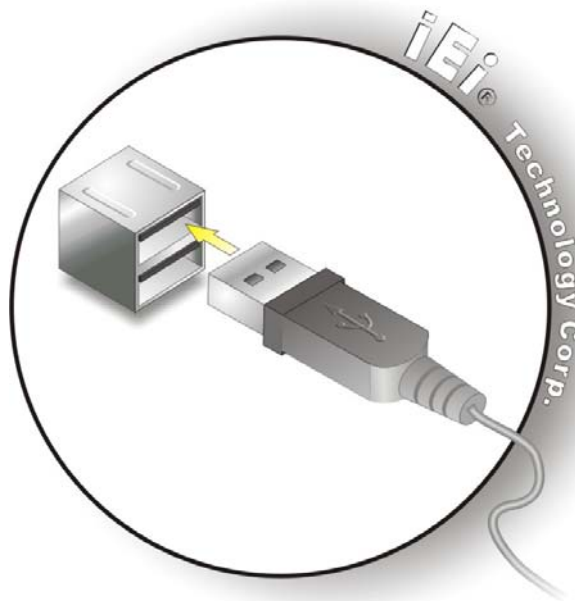

Figure 4-19: USB Connector
Step 2: **Insert a USB Series "A" plug.** Insert the USB Series "A" plug of a device into the USB Series "A" receptacle on the external peripheral interface. See **Figure 4-19**.